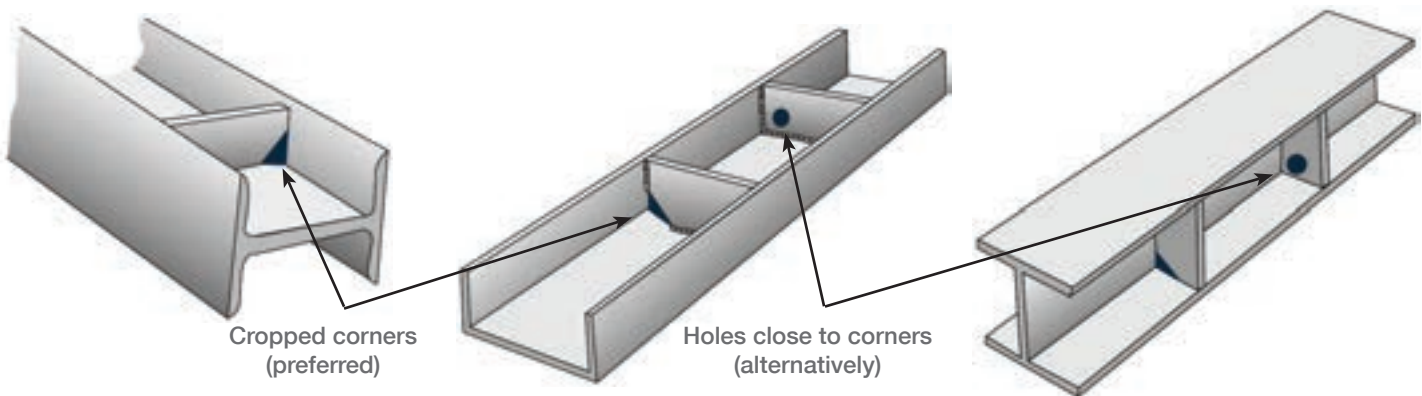

Figure 15: Cropped gusset plate corners
- Where gusset plates are used, generously cropped corners provide for free drainage. When cropping gusset plates is not possible, holes at least 1/2-inch (13 mm) in diameter must be placed in the plates as close to the corners as possible (*Figure 15*, below).